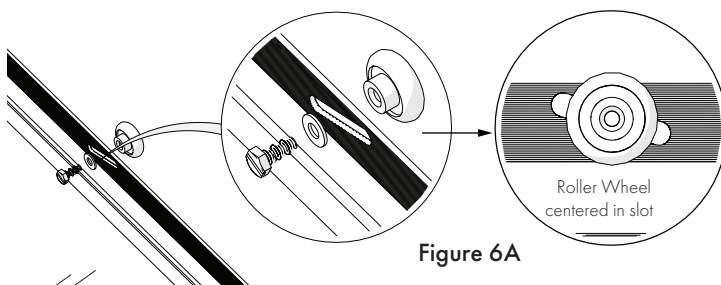

Figure 6A
6. Install all four *Roller Wheels*– #11 at the center of the angled slots on top of both lites of *Door Glass*– #09 and #10 to enable adjustment (if needed). Use the *M4 10mm Wheel Bolts*– #12 to x1 secure the *Roller Wheels*– #11. See Figure 6A. Note the reverse direction of the *Roller Wheels*– #11 on the *Inside* and *Outside Door Glass*. See Figure 6B.